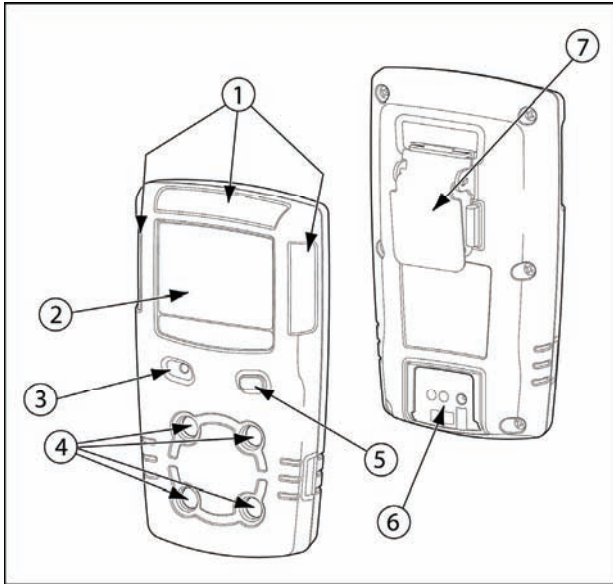

Figure 1. Parts of the GasAlertMicroClip
- Figure 1 and Table 3 describes the detector's components.